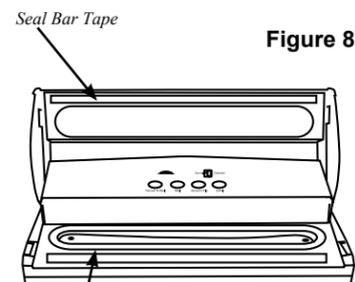

Figure 8
4. Remove the Oval Chamber Seal from the groove in the Vacuum Chamber (Figure 8).
4. Pick at either end of the Seal Bar Tape covering the Seal Bar Heating Element with a fingernail until it lifts slightly. Grasp the loose end and slowly pull the Seal Bar Tape back over itself until fully removed (Figure 8).